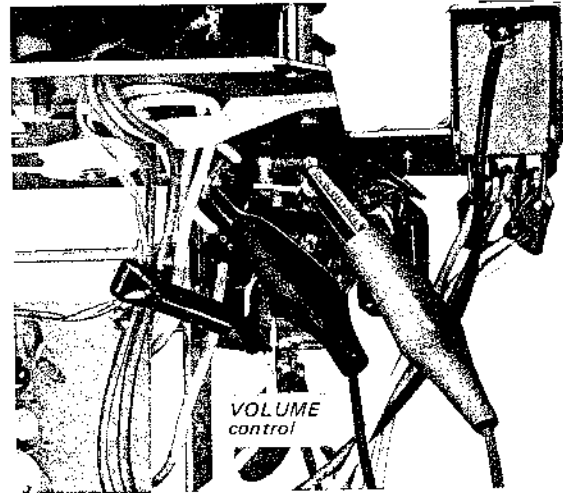

Fig. 3-7 VTVM connection
2. Connect the input cable of the ac VTVM across the VOLUME-control lugs, as shown in Fig. 3-7.
2. Connect the input cable of the ac VTVM across the VOLUME-control lugs, as shown in Fig. 3-7 on page 14.